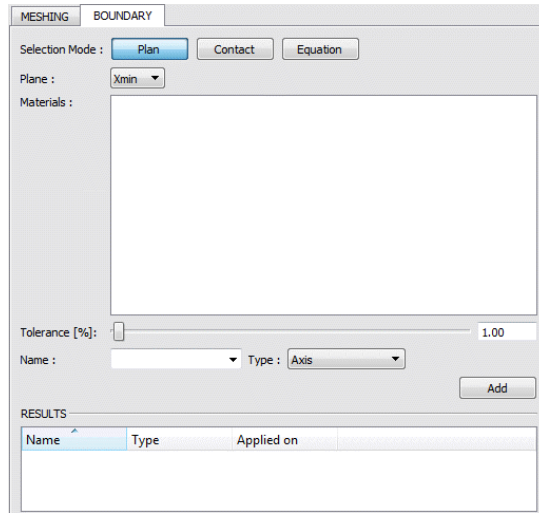

Figure 13.3: The Boundary Tab
- **A Boundary tab:** This is where boundary conditions are assigned to the mesh. Various tools let you select the elements (triangles) which are part of a given boundary condition group (given name and ID). This tab is available only if the selected file format allows exporting boundary conditions (Figure 13.3).